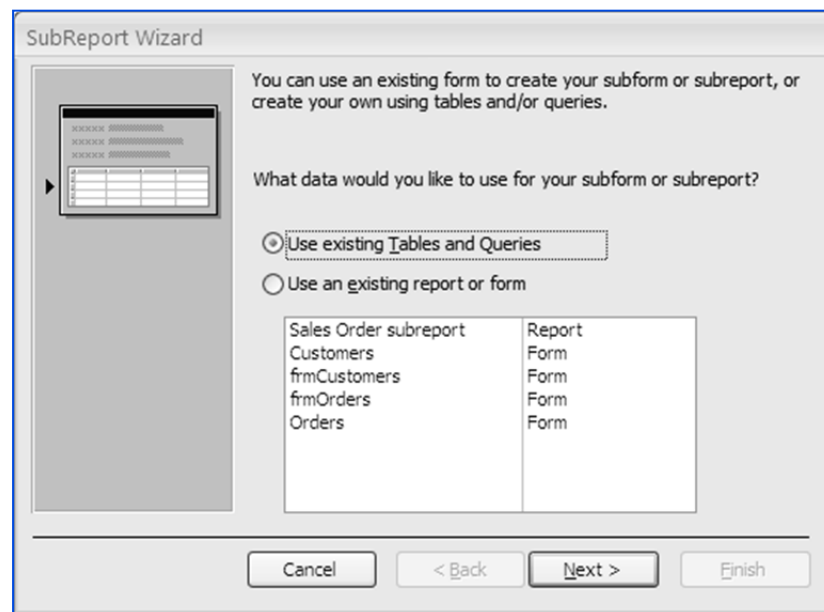

Fig. 2.4.14. SubReport Wizard
3. The *SubReport Wizard* appears, as shown in Fig. 2.4.14.